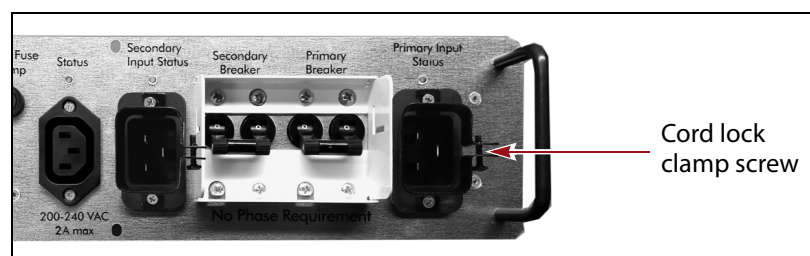

Figure 303 Install the cord locks on the power cords.
7. Place a cord lock over the connector on the end of the power cord that connects to the library. Orient the cord lock as shown in Figure 303.
9. Tighten the cord lock clamp screws (shown in Figure 303).